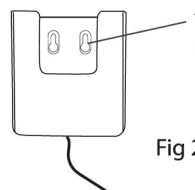

Fig 2
2. Screw the wall bracket onto the wall in a cool and dry location(Fig 2).